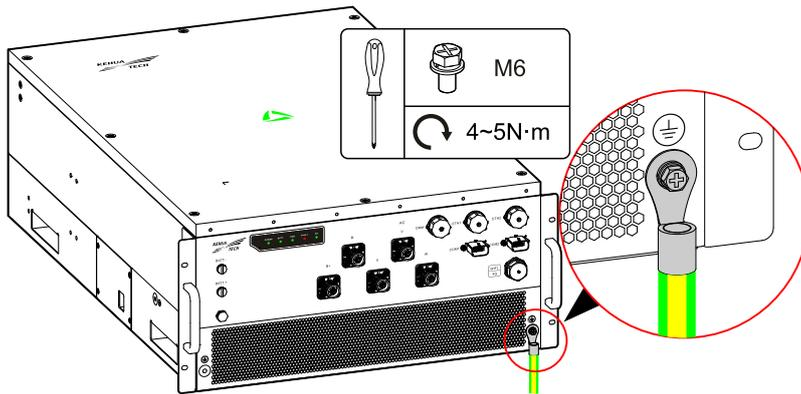

Figure3-13 Grounding connection diagram
- Step 1 Strip the insulation layer of the grounding wire by crimping tool, and press it into the corresponding terminal, and then connect the crimped grounding wire to the external grounding terminal of the PCS, as shown in Figure3-13.